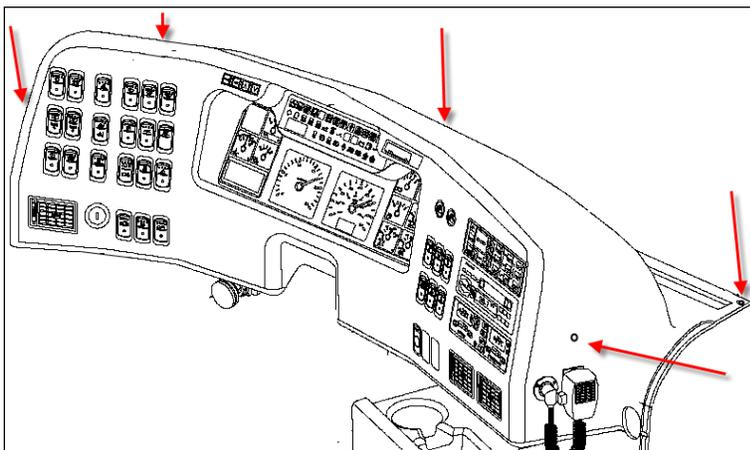

FIGURE 2: COVER RETAINING SCREWS POSITION
1. To gain access to the radio and sound selector (VSS) connections, remove the dashboard cover by unscrewing the five (5) M4 – 0.7x 20 screws that secure it to the dashboard (Figure 2).